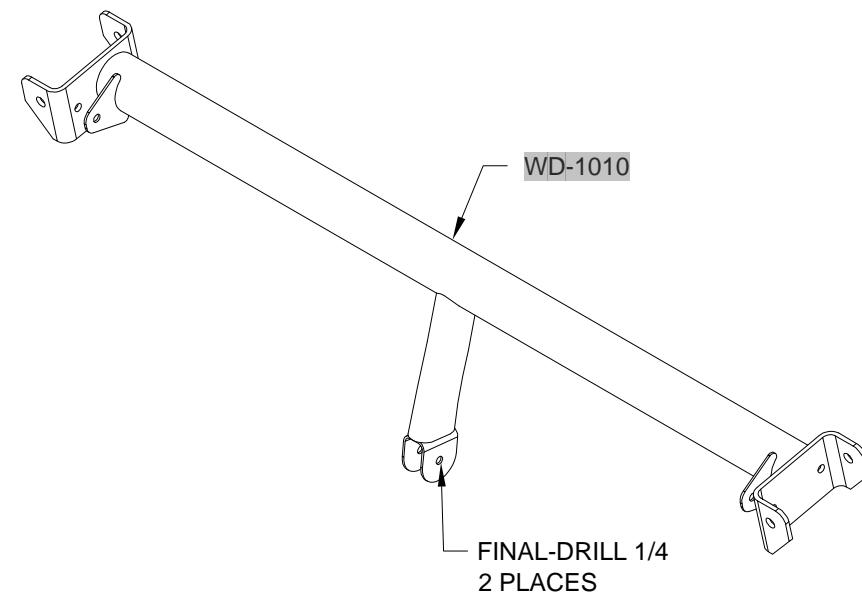

FIGURE 2: FINAL-DRILL CONTROL COLUMN
Step 2: Final-Drill the **WD-1010** Control Column as shown in Figure 2.